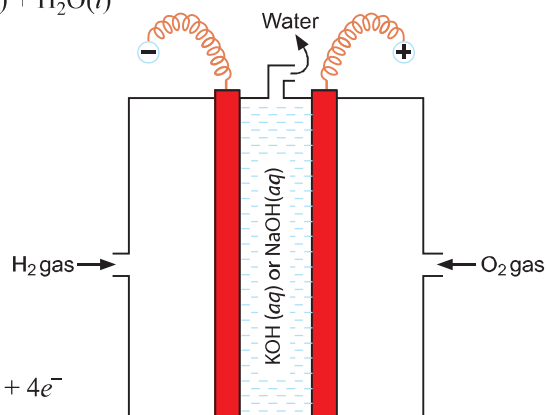

Fig. 3.8: A simple H₂–O₂ fuel cell
27. **Fuel Cells:** Fuel cells are those cells which produce electrical energy directly from the combustion of fuels such as hydrogen, carbon monoxide or methane. The most successful fuel cell, H₂–O₂ cell utilises the reaction between hydrogen and oxygen to produce water. Hydrogen and oxygen are bubbled through a porous carbon electrode in the cell into concentrated aqueous sodium hydroxide. Catalysts are incorporated into the electrode (Fig. 3.8). The electrode reactions are